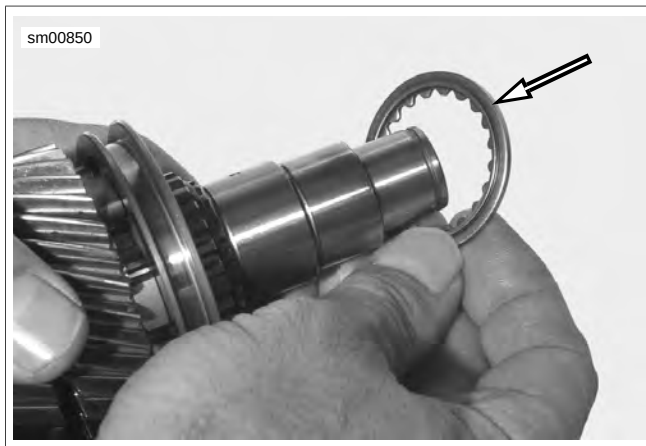

Figure 6-149. Splined Thrust Washer
5. See Figure 6-149. Install splined thrust washer, stepped side toward gears.